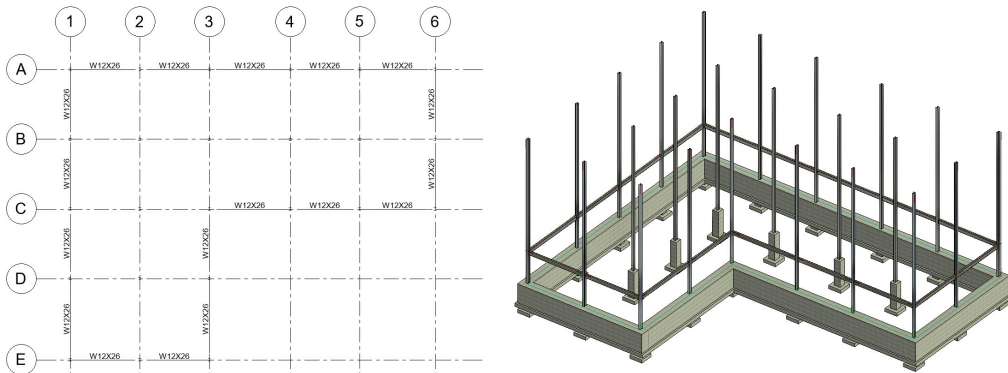

Figure 16.10 Perimeter beams placed along exterior columns shown in plan (left) and 3D view (right)
7. Continue this chain along the exterior columns as shown in Figure 16.10